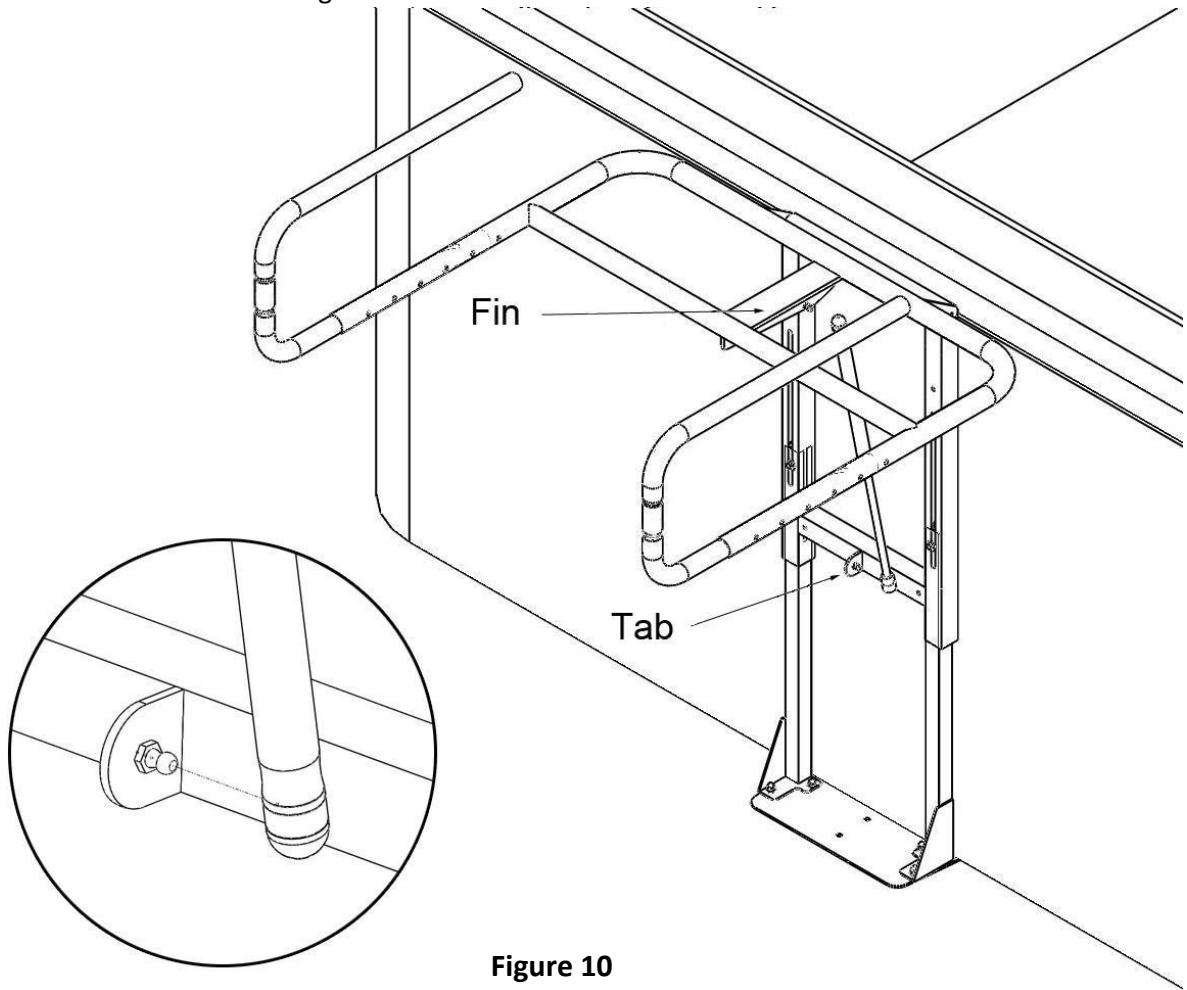

Figure 10
10. Attach the ccL Ball Studs and ccK Lock Nuts to the Tab and Fin. Then snap the ccDD Gas Shock over the round ends of the Ball Studs. See Fig 10.